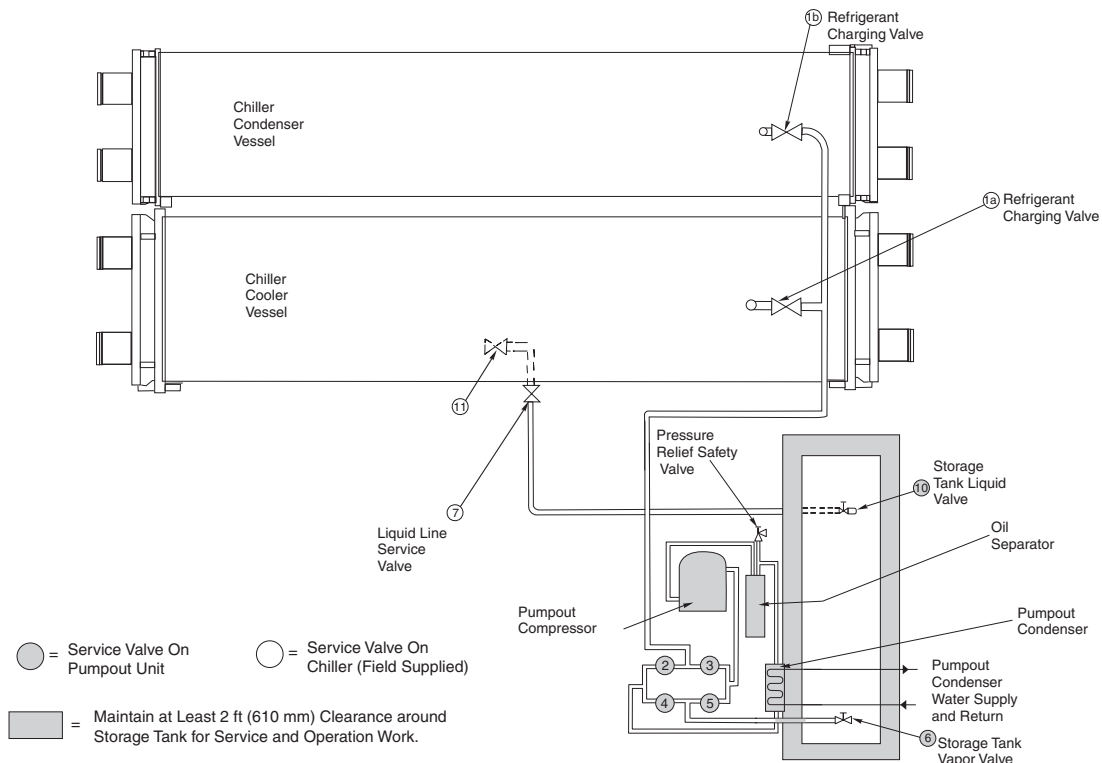

Fig. 41 — Typical Optional Pumpout System Piping Schematic with Storage Tank
For refrigerant side service work the refrigerant can be isolated in a storage tank. Note that R-1233zd(E) is a low pressure refrigerant, so therefore it is recommended to use refrigerant equipment suited for low pressure refrigerants. The following procedures and Fig. 41 and 42 describe how to transfer refrigerant from vessel to vessel and perform chiller evacuation.